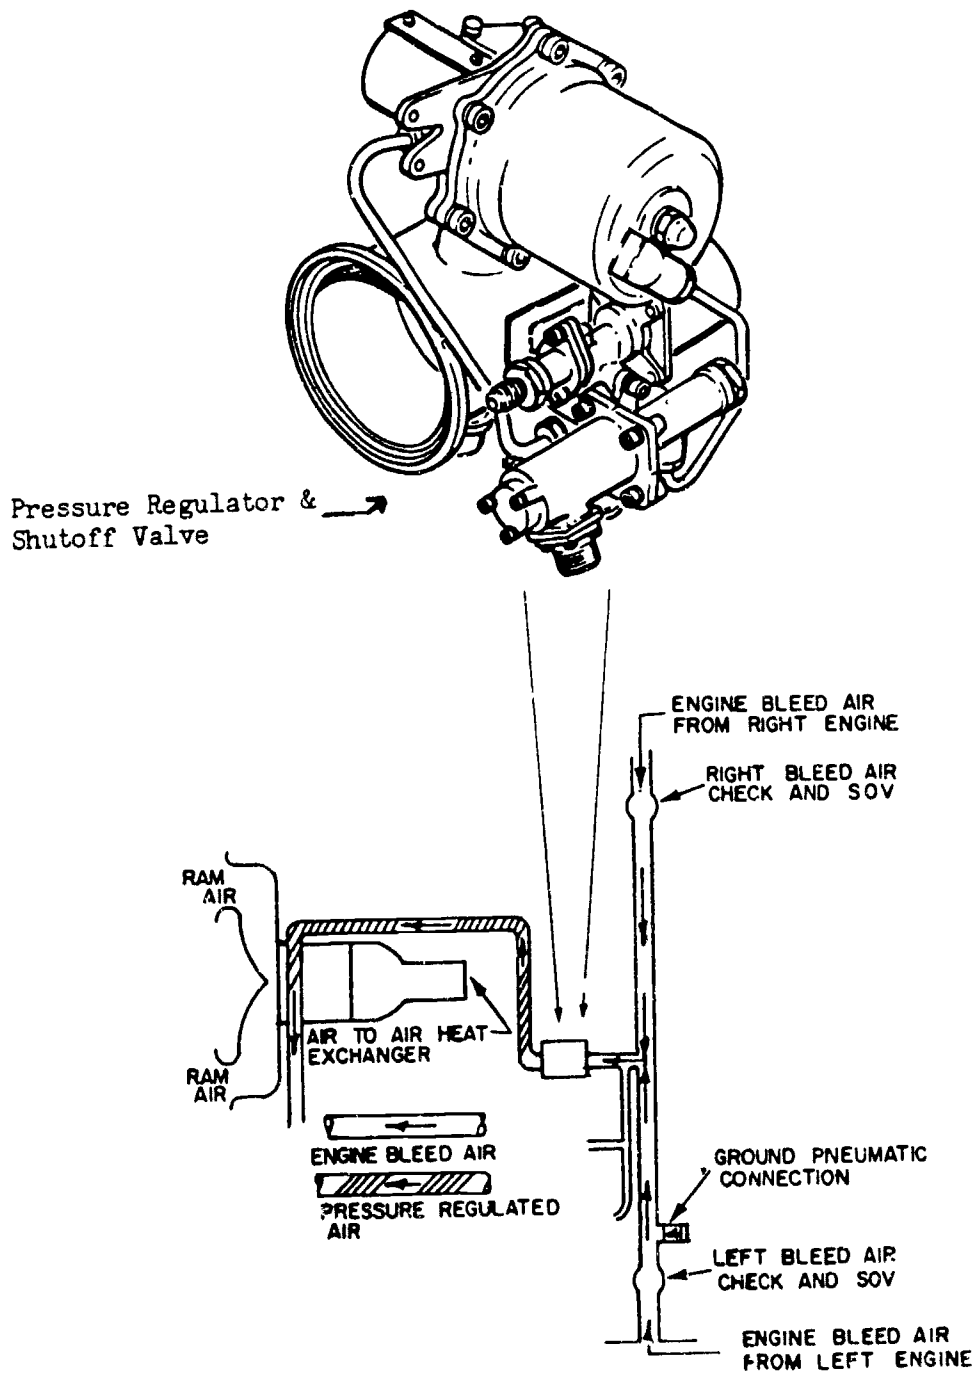

Figure 1.
We will discuss the cold air part of the system first. Figure 1 shows how the system is laid out. Engine bleed air from one or both engines can be used for air conditioning. From the left and right bleed air check and shutoff valves bleed air goes to the pressure regulator and shutoff valve. This valve is normally deenergized open. It regulates to 165 psi the air pressure going to the air-to-air heat exchanger. Here is where the first stage of cooling starts. The pressure regulator and shutoff valve is energized closed when: (1) there is an overheat condition in the system, (2) the system is in "ram", (3) starting the engines.